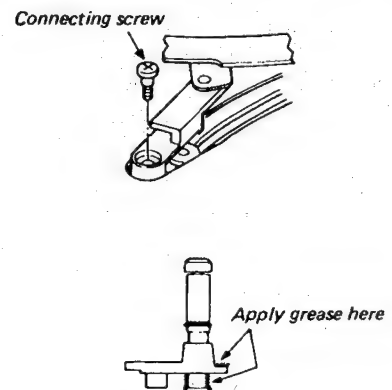

Fig. 1-3-23 S, T-slider replacement
3. Remove the connecting screw shown in Fig. 1-3-23.
When the slider is replaced, always apply grease to the slider as shown in Fig. 1-3-23.